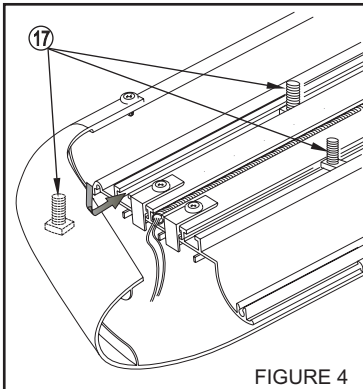

FIGURE 4
STEP 7. Insert square head bolts as shown (2 per slot, 4 per Step board/Running board). **SEE FIGURE 4.**
For Aluminum Running board, run wire loom down center as shown. **SEE FIGURES 4 AND 5.**